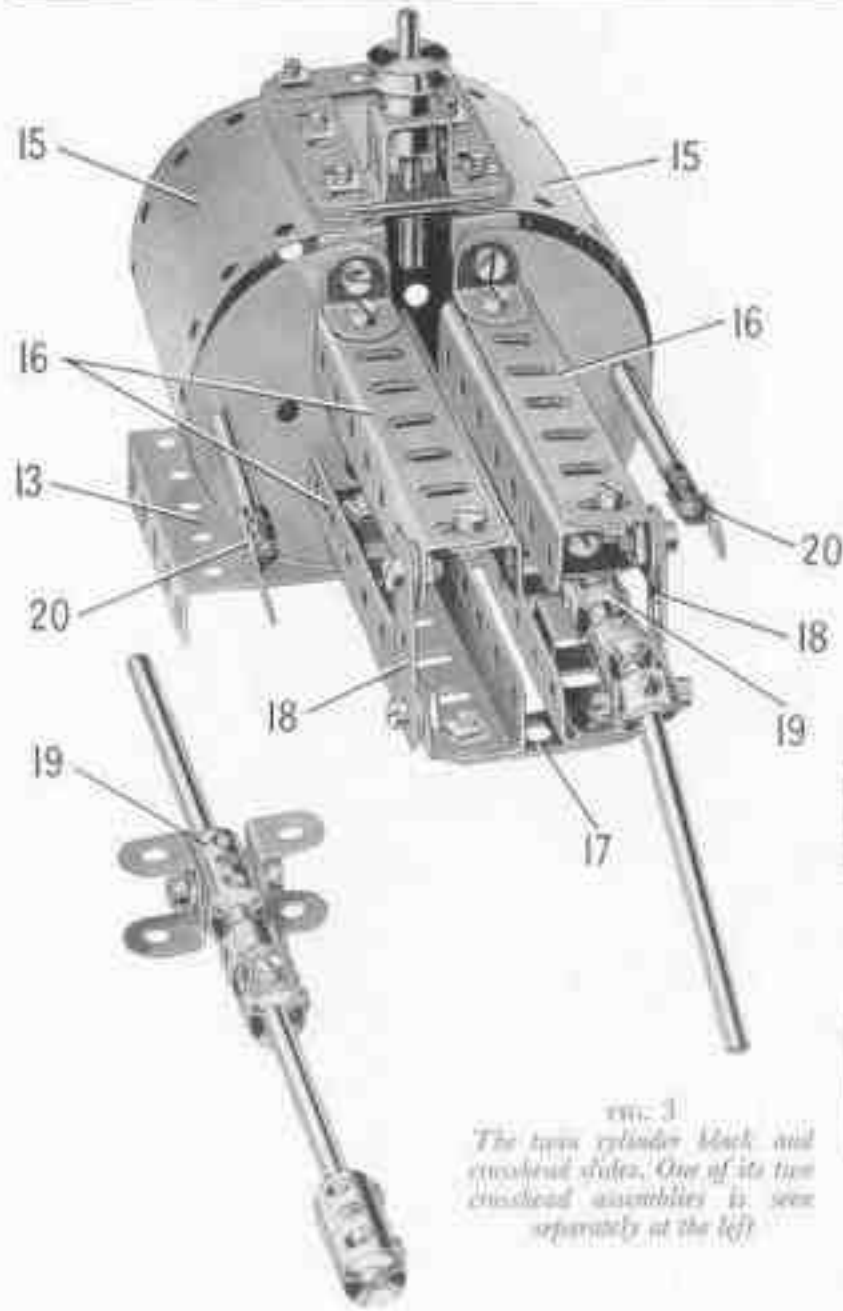

FIG. 3
The cylinder block is assembled on a $5\frac{1}{2}$ " x $2\frac{1}{2}$ " Flanged Plate (13) (Fig. 3) fitted at each flange with
The Crankshaft and Valve Control Eccentrics (Figs. 3, 6, 7 and 8)
The outer crankshaft webs are each made from a Flat Trunnion fitted with a Double Arm Crank (28) and a Crank (29). The inner web is made from two Flat Trunnions bolted together at right angles, the bolts holding also the Cranks (30) (Fig. 7). The webs are held together by 1" Rods fixed in the Cranks (29) and (30), and a $1\frac{1}{2}$ " Strip bolted to an End Bearing (31) is carried on each Rod. The crank webs are fixed on a $4\frac{1}{2}$ " Rod (32) (Fig. 6) on one side and a 4" Rod (33) on the other. A Triple Throw Eccentric is fixed on each Rod, and these are linked by made-up strips to the Rod and Strip Connectors (20) (Fig. 3) on the valve rods. The End Bearings (31) (Fig. 6) are connected by made-up rods to the Swivel Bearings on the piston rods. The made-up strips are formed by $5\frac{1}{2}$ " Strips overlapped, and each made-up rod consists of a 2" and a $2\frac{1}{2}$ " Rod joined by a Coupling.